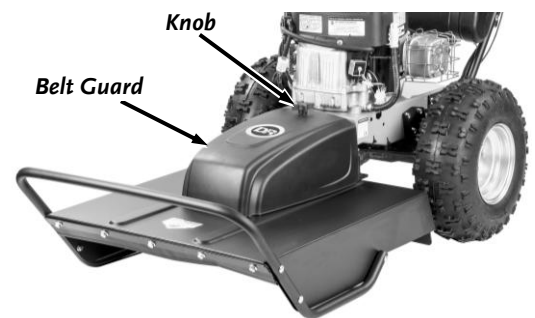

Figure 25
1. Unscrew the Knob that secures the Belt Guard to the Deck and remove the Guard (**Figure 25**).